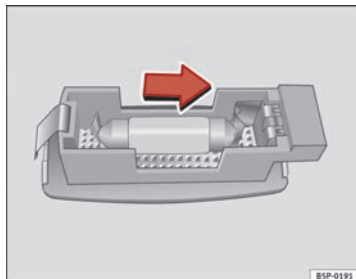

Fig. 195 Removing sun visor light
- Carefully remove the lamp, using the flat side of the screwdriver, as shown in the figure ⇒ Fig. 195.
- Remove the bulb, moving it in the direction of the arrow and outwards ⇒ Fig. 195.